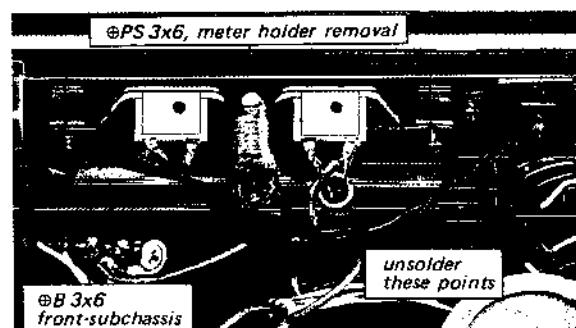
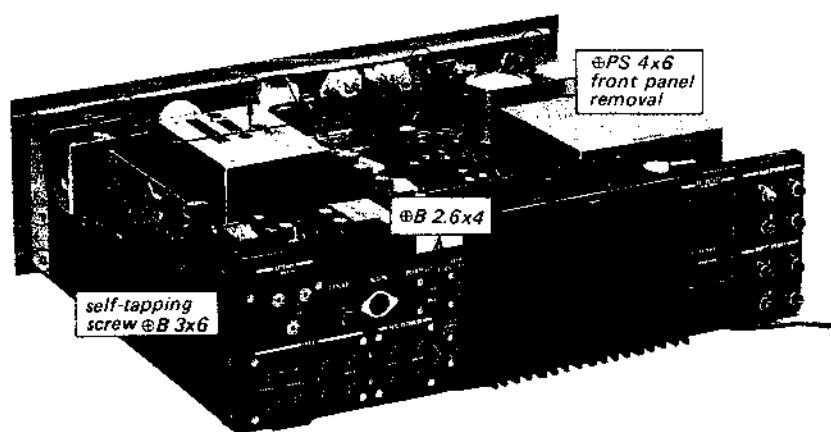

Fig. 2-3 Front subchassis removal
Fig. 2-4 Rear view
3. Remove the four screws (\oplus PS 4x6) behind the top edge of the front subchassis as shown in Fig. 2-4.
2. Remove the two self-tapping screws (\oplus B 3x6) at each side of the chassis (see Fig. 2-4) and one screw (\oplus B 3x6) securing the terminal strip to the chassis as shown in Fig. 2-3.
3. Unsolder the lead wires from the dial lamp socket as shown in Fig. 2-3.
3. Remove the two screws (Θ PS 3x6) securing the meter holder to the front subchassis as shown in Fig. 2-3.
- Remove the four screws ($\#B\ 2.6\times4$) securing DE-EMPHASIS and SPEAKER EQUALIZER switches to the rear panel as shown in Fig. 2-4.
- Remove the two self-tapping screws ($\#B\ 3\times6$) at each side of the chassis as shown in Fig. 2-4. This frees the rear panel as shown in Fig. 2-17.